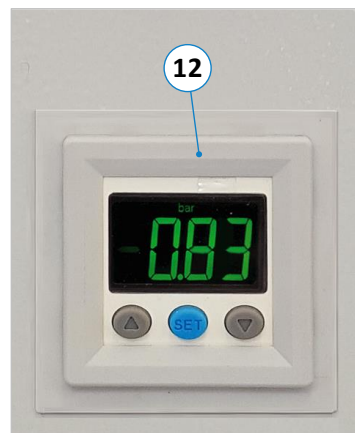

Figure 18: Digital pressure switch
- The digital pressure switch (12) shown in ⇒ Figure 18 controls the vacuum pump and indicates the current operating vacuum (between 0.3 and 0.9 bar). If the vacuum falls below 0.25 bar, the red warning lamp (10) lights up until the digital pressure switch has restored the operating vacuum. **Remark:** Do not change the settings of the digital pressure switch, it has already been optimally adapted to the system at the factory.